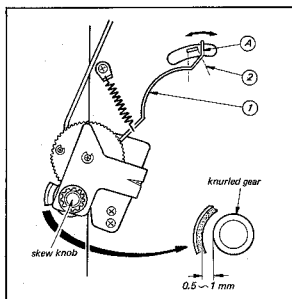

Fig. 4-29.
2. Check that the Item 2 shown in Fig. 4-29 stops Item 1 when the RECORD button is pressed and that the SKEW control knob returns to its normal position.